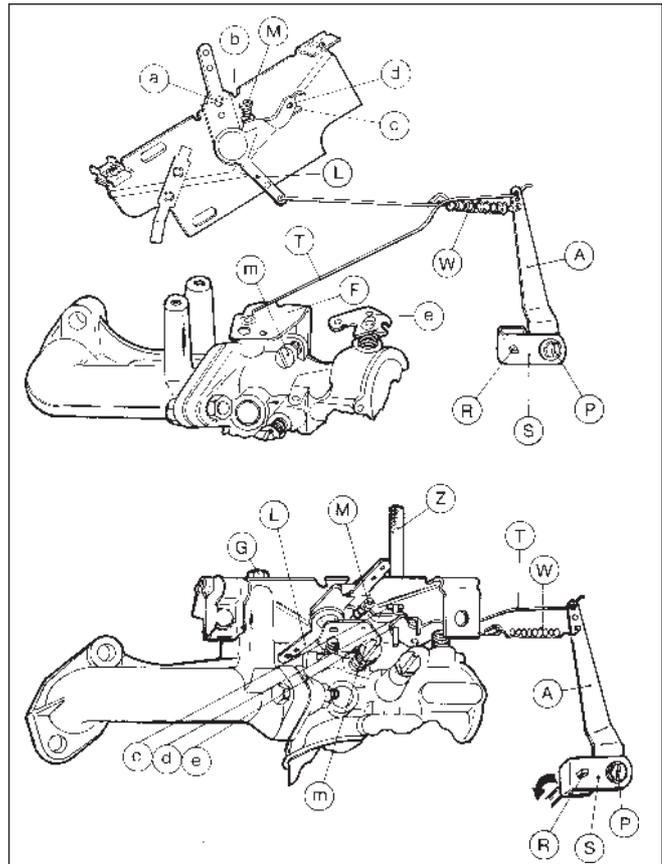

Fig. 15
Link (T) positively connects lever (A) with main throttle lever (F). (Fig 15).
To install this type of governor linkage (Fig 15) proceed as follows:
### c) SPEED ADJUSTMENT (Fig. 15)